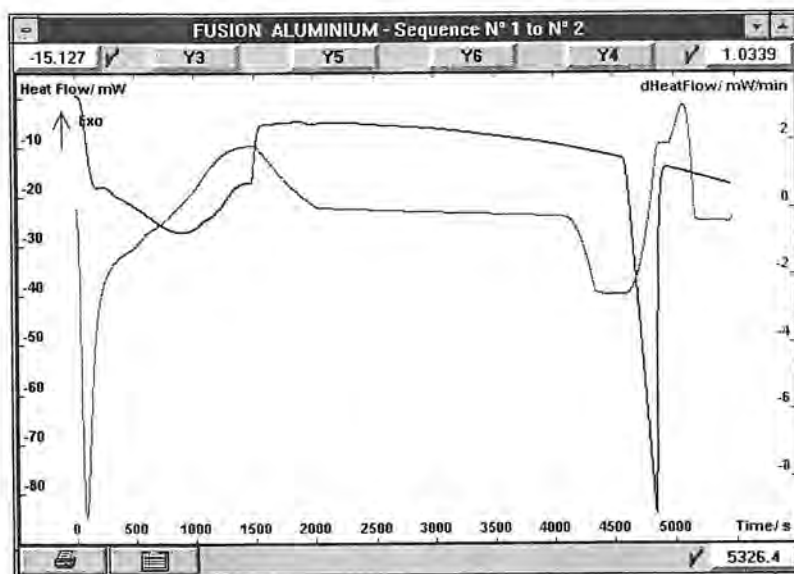

Figure 47 : Plotting window
- A window displaying the plotting of signals (see *Figure 47*).